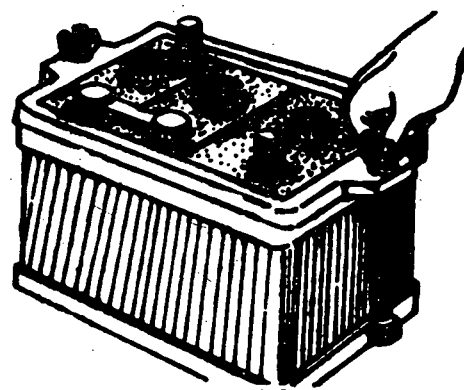

Fig. 2
- e) Remove nuts and bolts from the upper frame of the battery tray (Fig. 2).